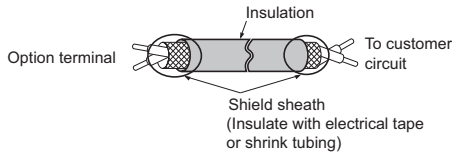

Figure 6 Preparing Ends of Shielded Cable
4. Prepare and connect the wire ends as shown in **Figure 6** and **Figure 7**. Refer to **Wire Gauges and Tightening Torques on page 20** to confirm that the proper tightening torque is applied to each terminal. Take particular precaution to ensure that each wire is properly connected and wire insulation is not accidentally pinched into electrical terminals.